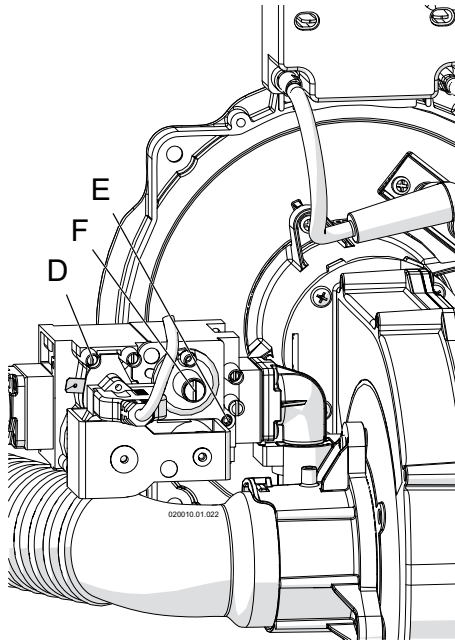

Figure 12-6 Gas valve
6. After verifying the correct gas pressures disconnect the manometer, turn the screw in pressure connection "D" in Figure 12-6, clockwise until snug and check for any gas leaks.
- 20 - turn completely counter clockwise the screw "E" of Figure 12-6;